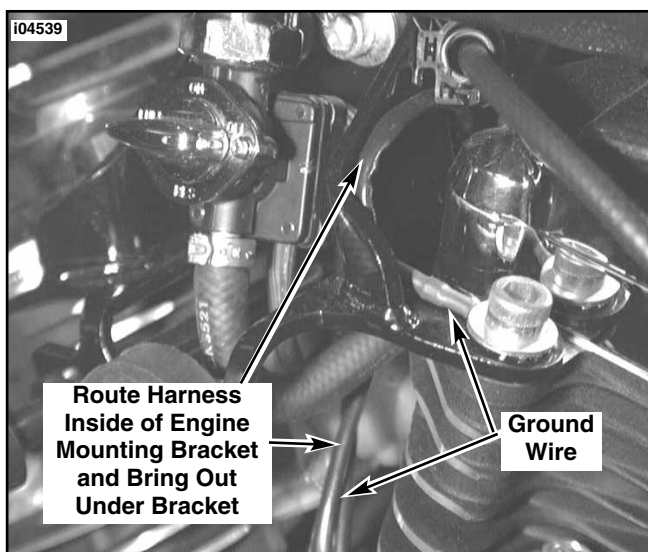

Figure 4. Route New Harness to Horn Mounting Location
10. See Figure 4. Continue to route terminal end of horn harness (black/yellow wire with insulated flag terminal) down between cylinders keeping to the inside of the top center engine mounting bracket. Bring harness out under engine mounting bracket on the left side.
12. See Service Parts Illustration and refer to Figure 4. Obtain ground wire (8) and lockwasher (7) from kit. Remove bolt securing top engine mounting bracket to rear cylinder. Install ground wire ring terminal and lockwasher, the reinstall bolt. Tighten to 25-30 ft-lbs (33.9-40.7 Nm). Route the opposite end (flag terminal) to inside of engine bracket, then back down and under as shown.